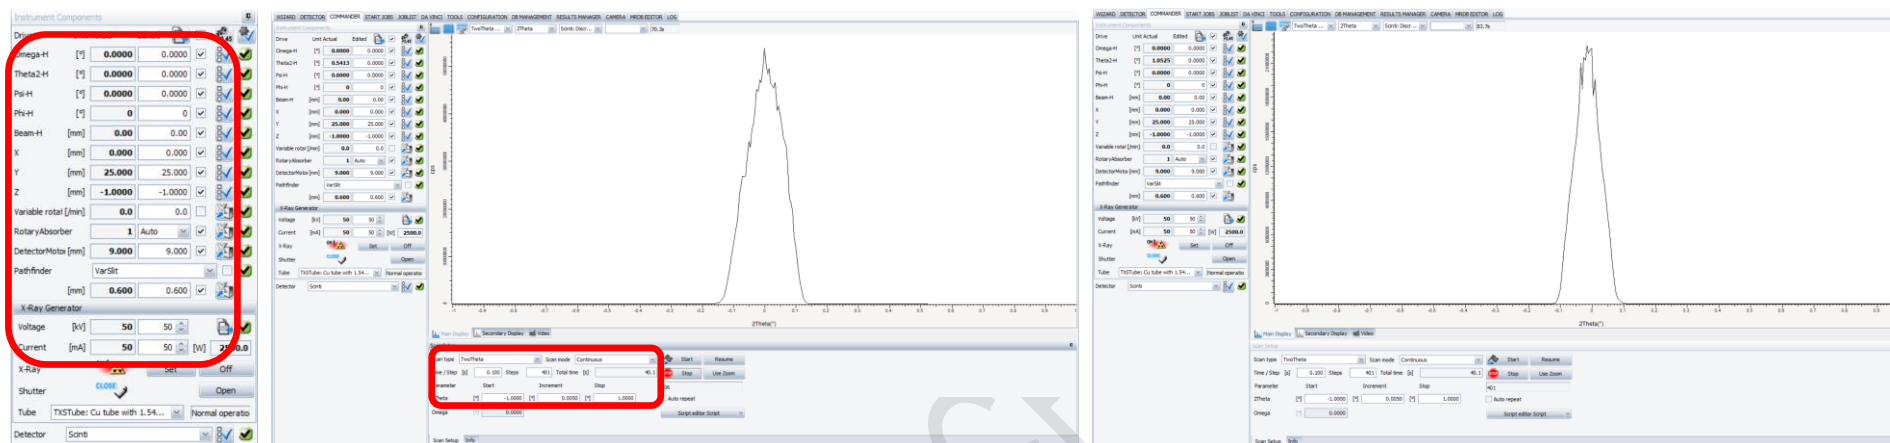

Fig 6-7 Intensity check for incident beam
During evaluating the intensity of incident beam, set the values as shown below in Fig 6-7: it reaches ~22000 Kcps with 0.5 mm collimator and ~53000 Kcps without collimator correspondingly.
6.7.2.3 Scan parameters: Scan type: TwoTheta, 2Theta range: -1 ~ 1°, Increment: 0.01 or 0.005°/step, time/step: 0.1 s/step, the peak locates around 0° (Fig 6-7);